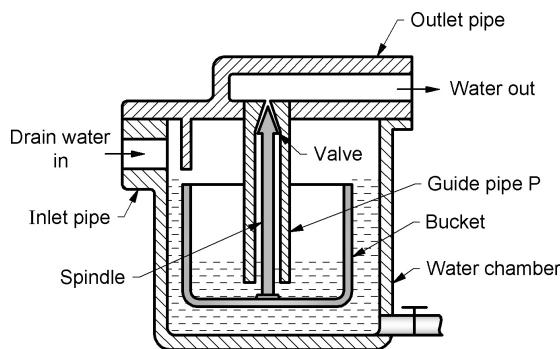

Fig. 2.17 Steam trap
- (1) Fig. 2.17 shows schematic diagram of bucket type steam trap.
- (2) It consists of a bucket which is fitted with spindle at its centre. The upper conical end of spindle acts as valve.
- (3) A guide pipe is fitted inside the chamber which has an outlet at its top. This outlet opens or closes by the valve which moves downward or upward with spindle.